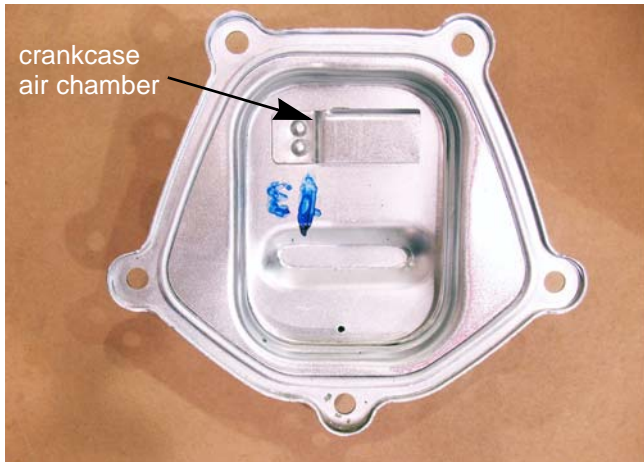

Figure 2.3
1. The PCV chamber is vented to the heat box through a molded rubber hose. The rubber hose directs crankcase fumes to the heat box assembly. See Figure 2.3.